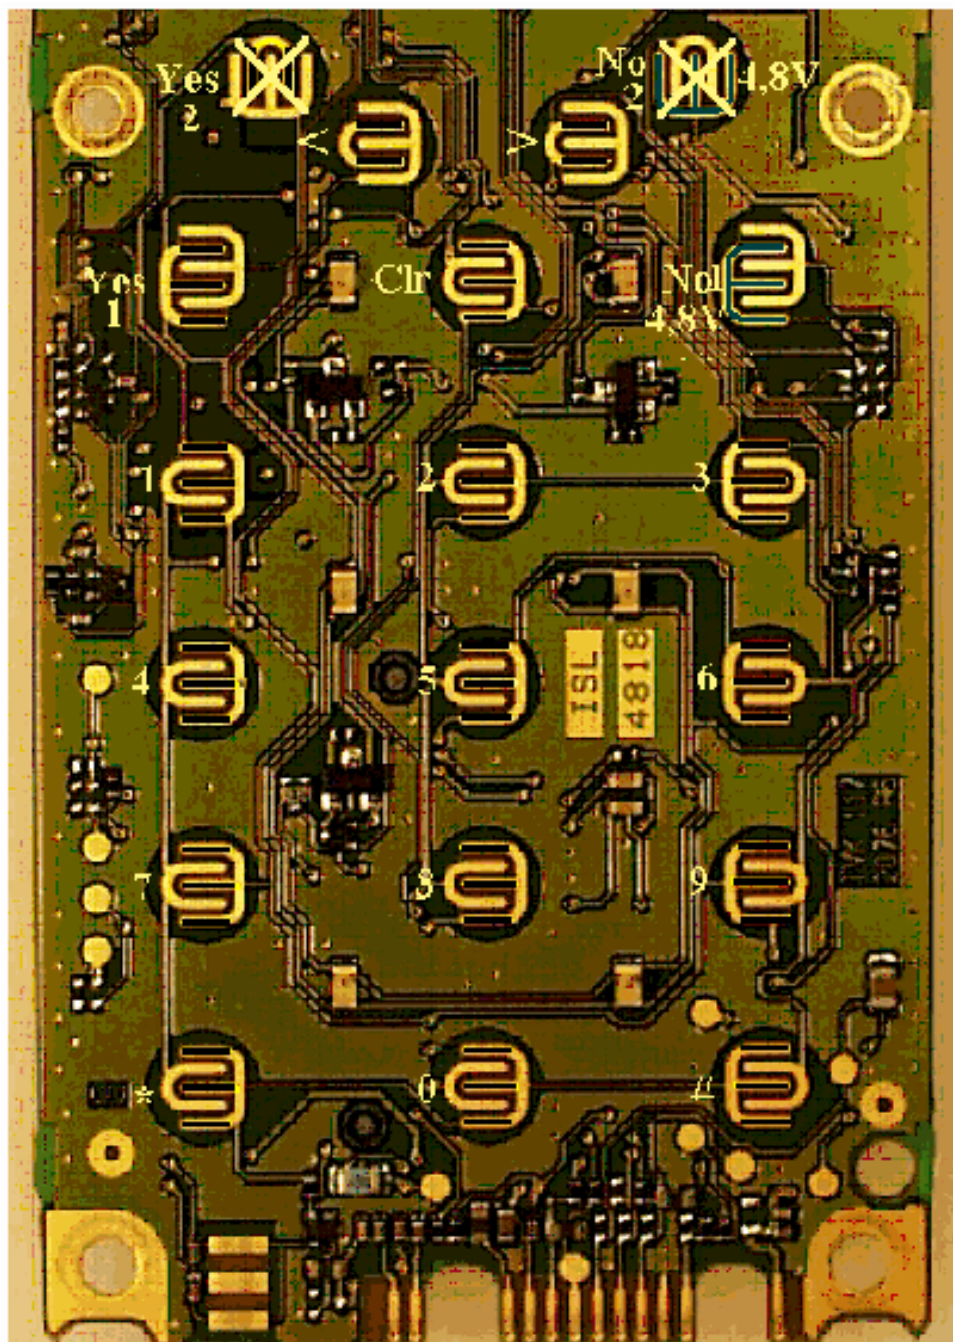
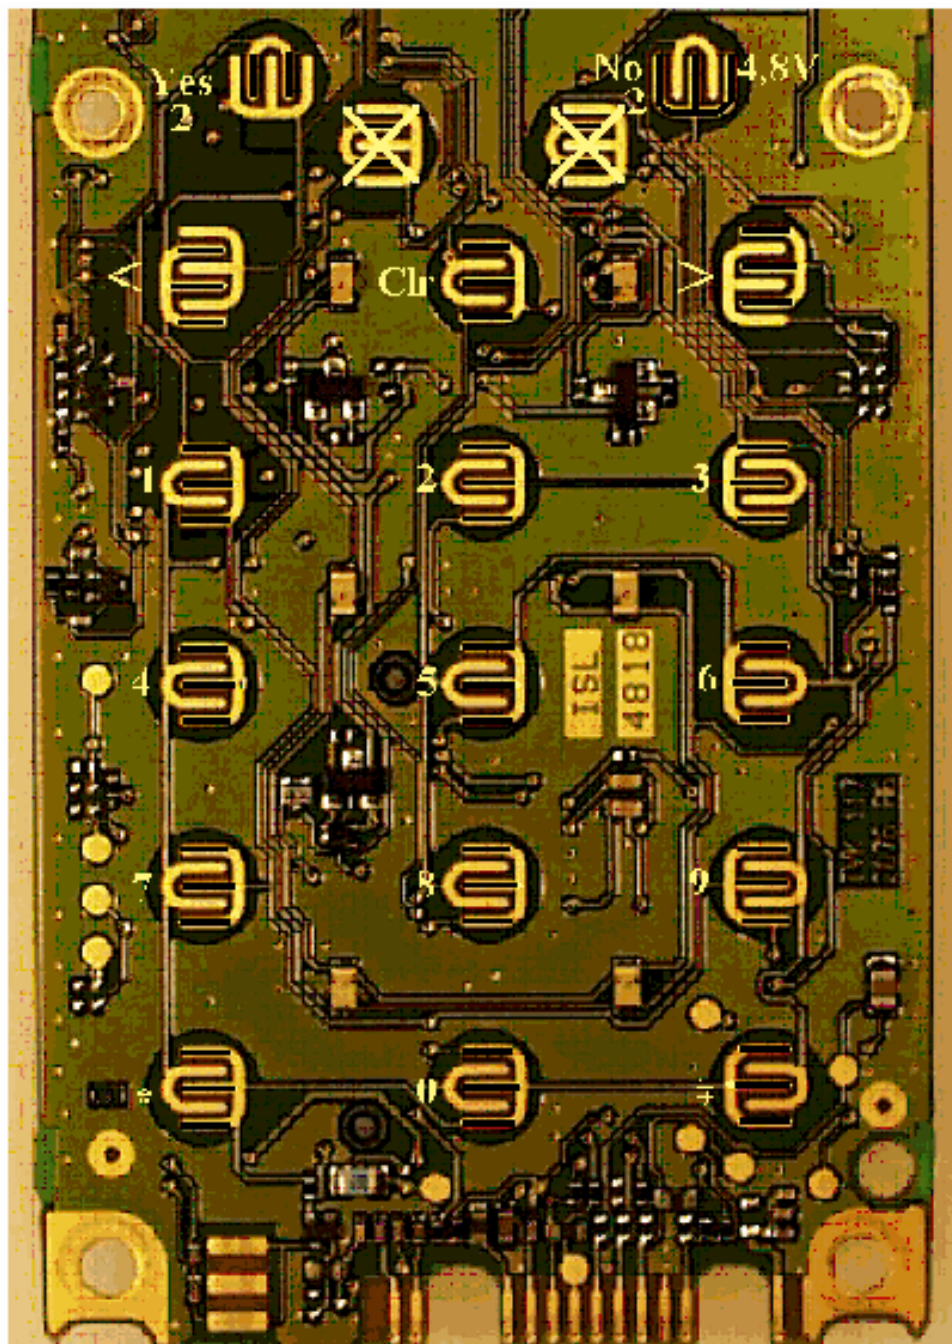
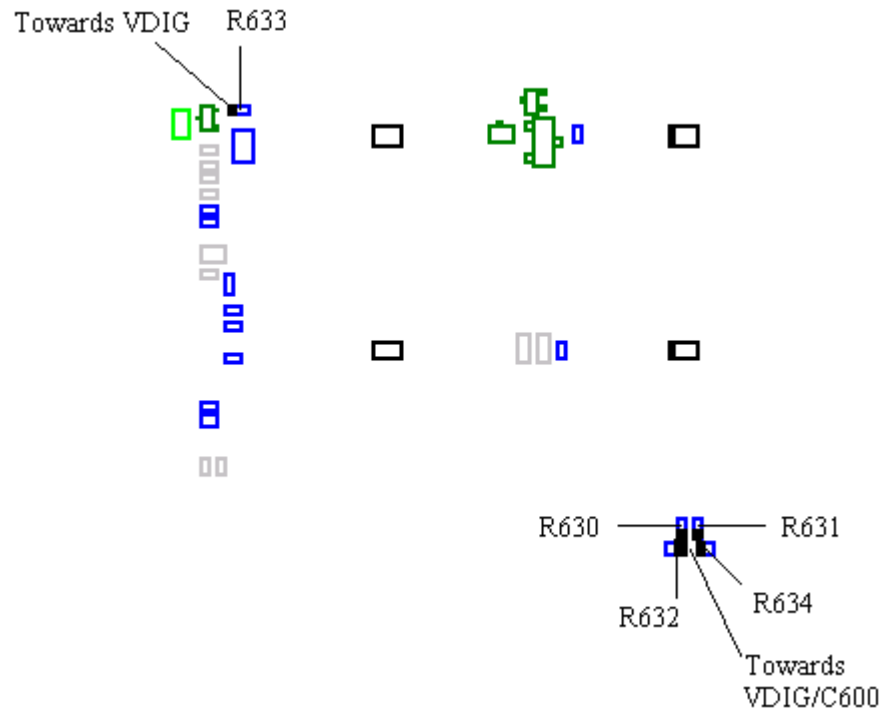

Fig. 8.5
Fig. 8.6
Fig. 8.7
- If VDIG is correct, check if there is correct voltage (~3.2V) at marked sides on the pads of the faulty keys (GH 688 shown on fig. 8.5, GA 628 on fig. 8.6).
If there is no voltage at a whole row according to fig. 8.5/8.6 (for instance 1, 2, 3, Yes2), measure the resistance of that row's resistor (R630, R631, R632, R633 and R634, fig. 8.7). In this case the R630 resistor. All the resistors are of class A and should be ~100kohms.